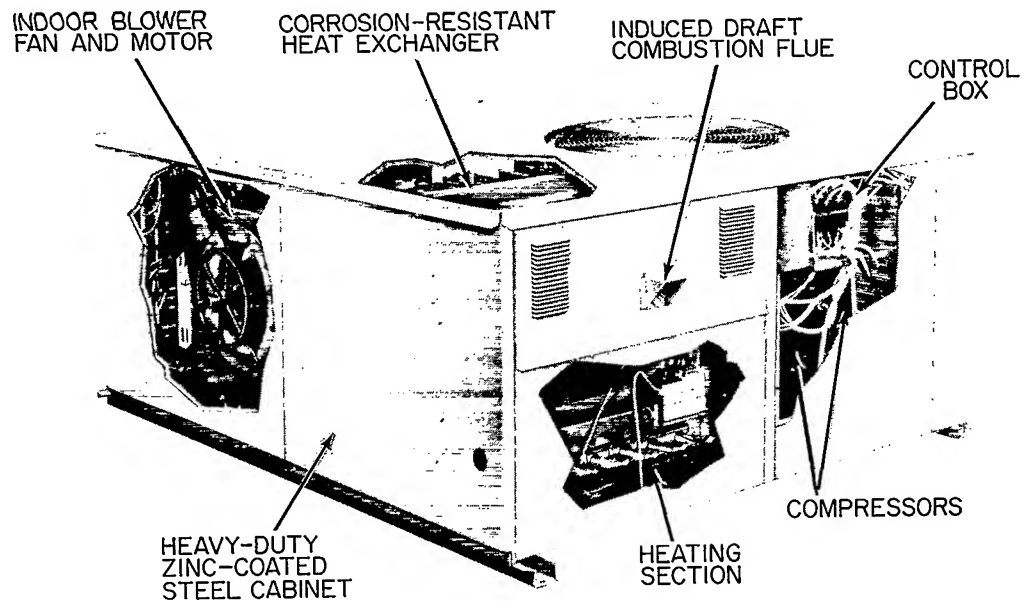

Figure 1 - Cutaway View of Model 585C090225
- Step 2 —Remove lower heating section access panel to your unit. See Figure 1.
- Step 2 —Remove lower heating access panel. See Figure 1.
Refer to Figures 1 and 3. Using a flashlight, proceed as follows to inspect the combustion area and vent system of your unit.